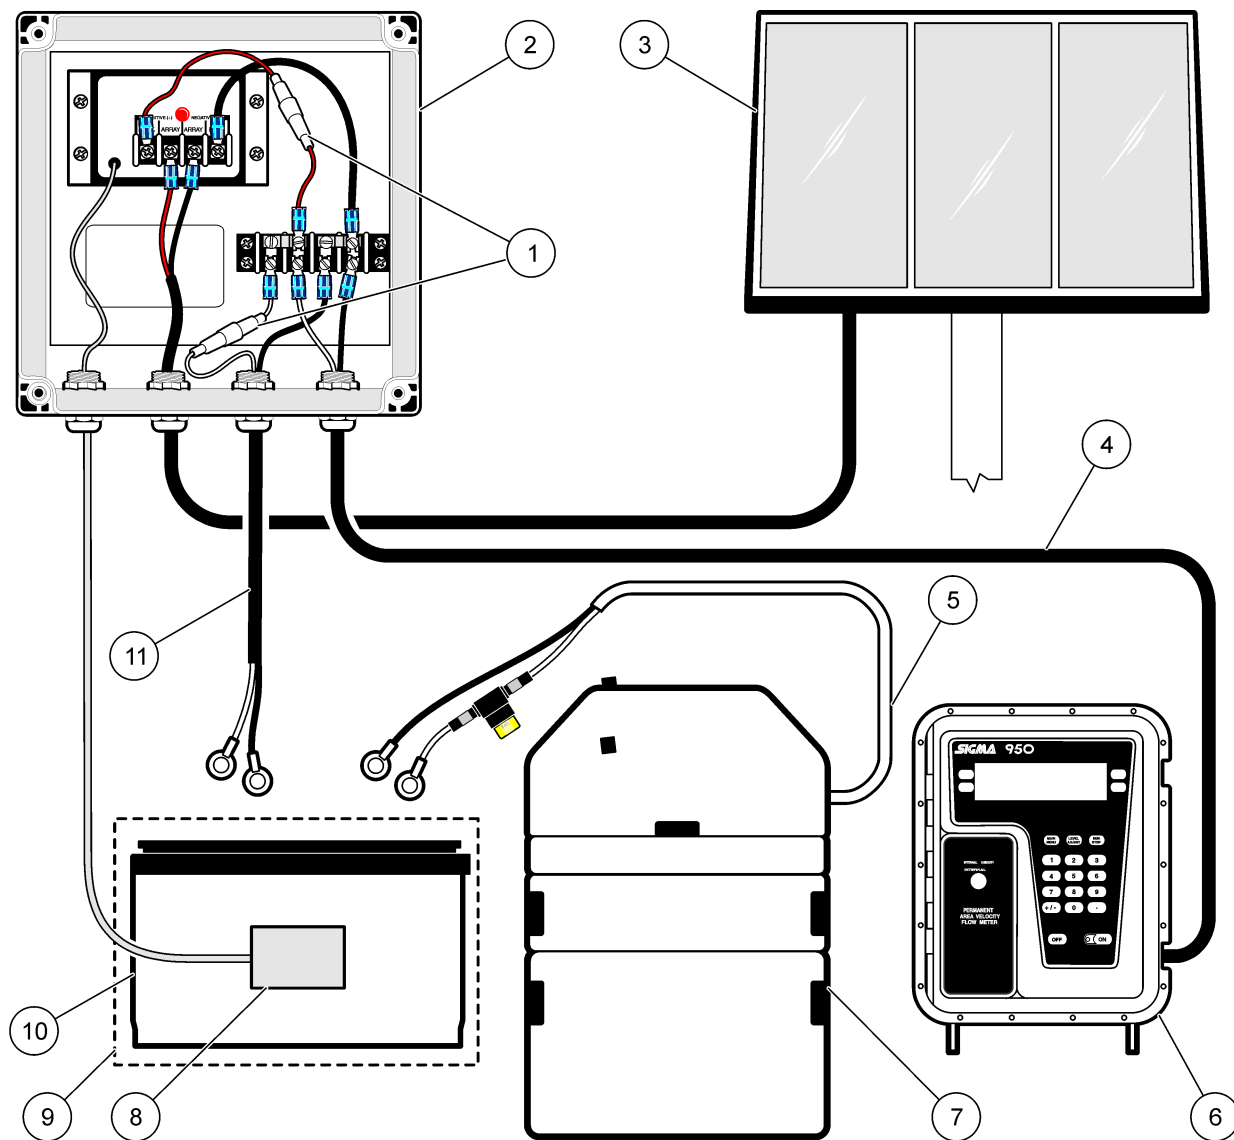

Figure 10 900 MAX or SD900 sampler with a 950 flow meter connected to a regulator
5. Remove the nut on the battery cable strain relief and feed battery cable wires through the third hole on the regulator. Thread the nut over the wire and tighten to secure. Connect the spade terminals to the screw terminals. Refer to Figure 10 on page 15.
9. Remove the nut from the flow meter cable strain relief and feed the flow meter cable wires through the fourth hole on the regulator. Thread the nut over the wires and tighten to secure. Connect the spade terminals to the screw terminals as shown in Figure 10 on page 15.